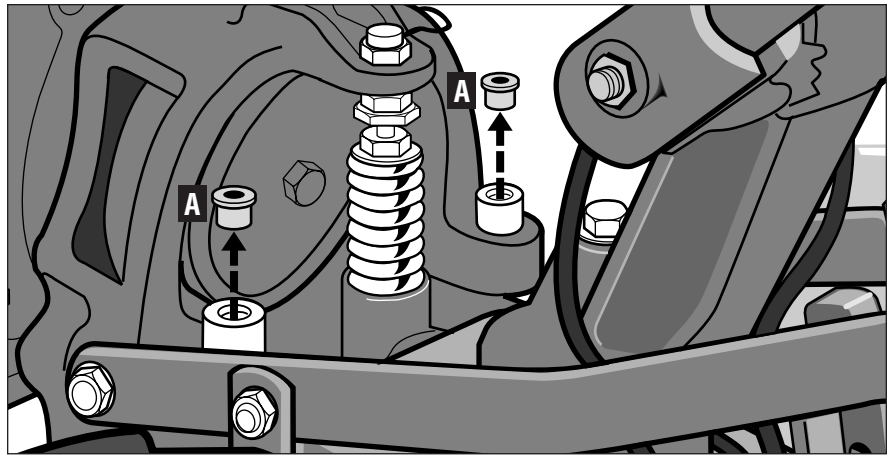

Fig. 2
3. Using needle-nose pliers, twist and remove the red plastic thread protector plugs located on the two engine mounting bars (A, Fig. 2). Discard the plugs.